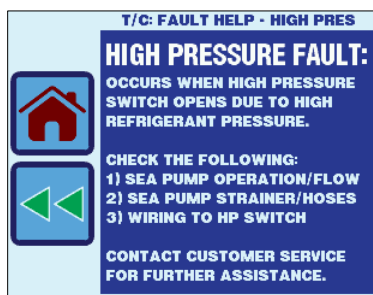

Figure 51 – Fault Help Display Screen Example
**Fault Help Lookup** – For each of the six faults described in section 9, a help description is available in the Fault Help Lookup menu. These help descriptions are also displayed whenever a fault is active or recovering, and the user presses the touch screen over the top of the fault status display on the Main screen. See Figure 51 for an example of a Fault Help description.